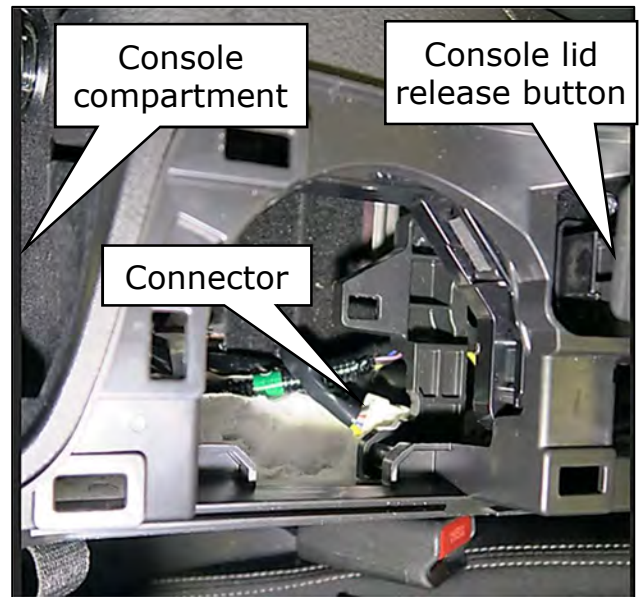

Figure 34
35. Disconnect the console electrical connector shown in Figure 34.